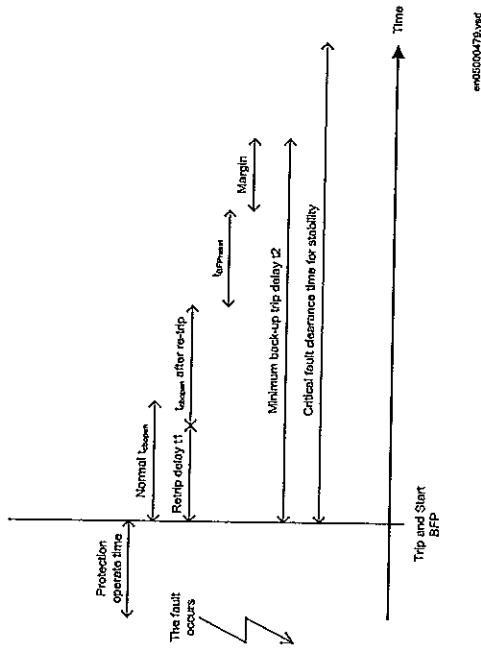

Figure 13: Overexcitation protection characteristics
- The delay time of the breaker failure protection (BuTrip) is chosen according to figure 13.